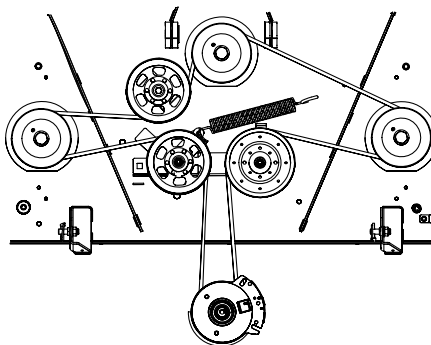

Figure 4-17
6. Place the belt around the idler pulleys removed in step 3 with the 'V' side facing in. Once in place, reinstall all the hardware and tighten the flange lock nut to secure the assembly. See Figure 4-17.
7. Route the belt as shown in Figure 4-17 and then reinstall the deck (refer to Deck Installation).